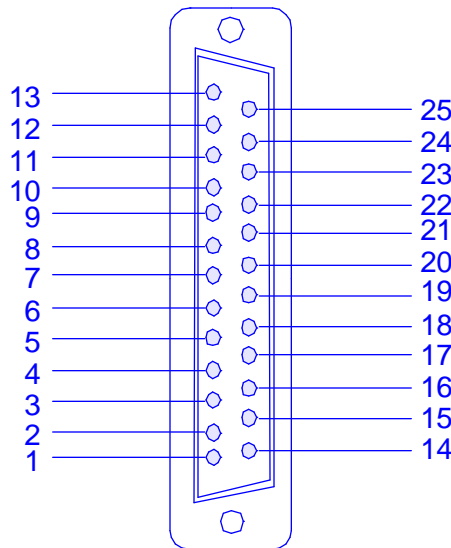

Figure 2-5 Connector J1 - J4 Pin Configuration (USS-2-DC/Business Equipment)
6. Plug the four-pin cable into the connector that is visible through the cutout in the upper corner of that particular panel. These connectors are keyed to ensure they can only go in the right way. *See Figure 2-5, below*. On the KILOMUX product there are (2) four-pin cables, which should be plugged into the connector located directly above the cable.